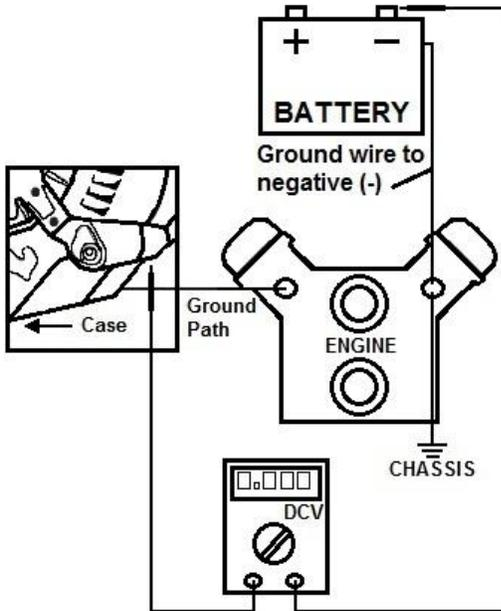

Figure 1
1. Apply some load to the charging system, such as high beams and A/C. Rev the engine to 1500 RPM. Use a voltmeter to measure the DC voltage from a metal point on the alternator case to the negative (-) battery cable. If your reading is higher than 0.10VDC, this indicates you have a poor ground connection. Check the ground path, paint or powder coating on the brackets, engine ground strap, and ground cable from the frame to the battery (Figure 1).